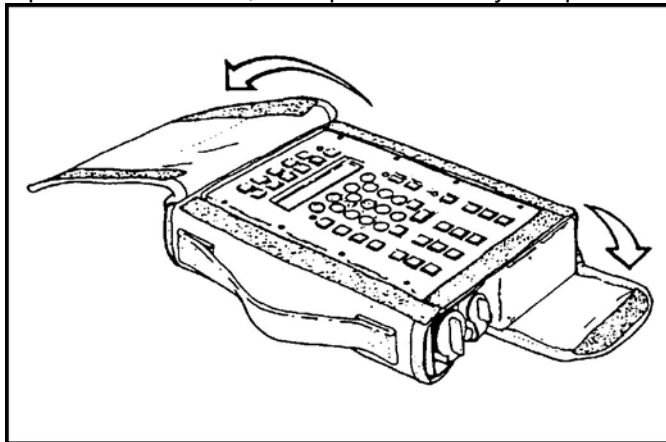

Figure 2. MBC covers opened.
- b. Open the top flap of the MBC case, and open the battery compartment cover (Figure 2).